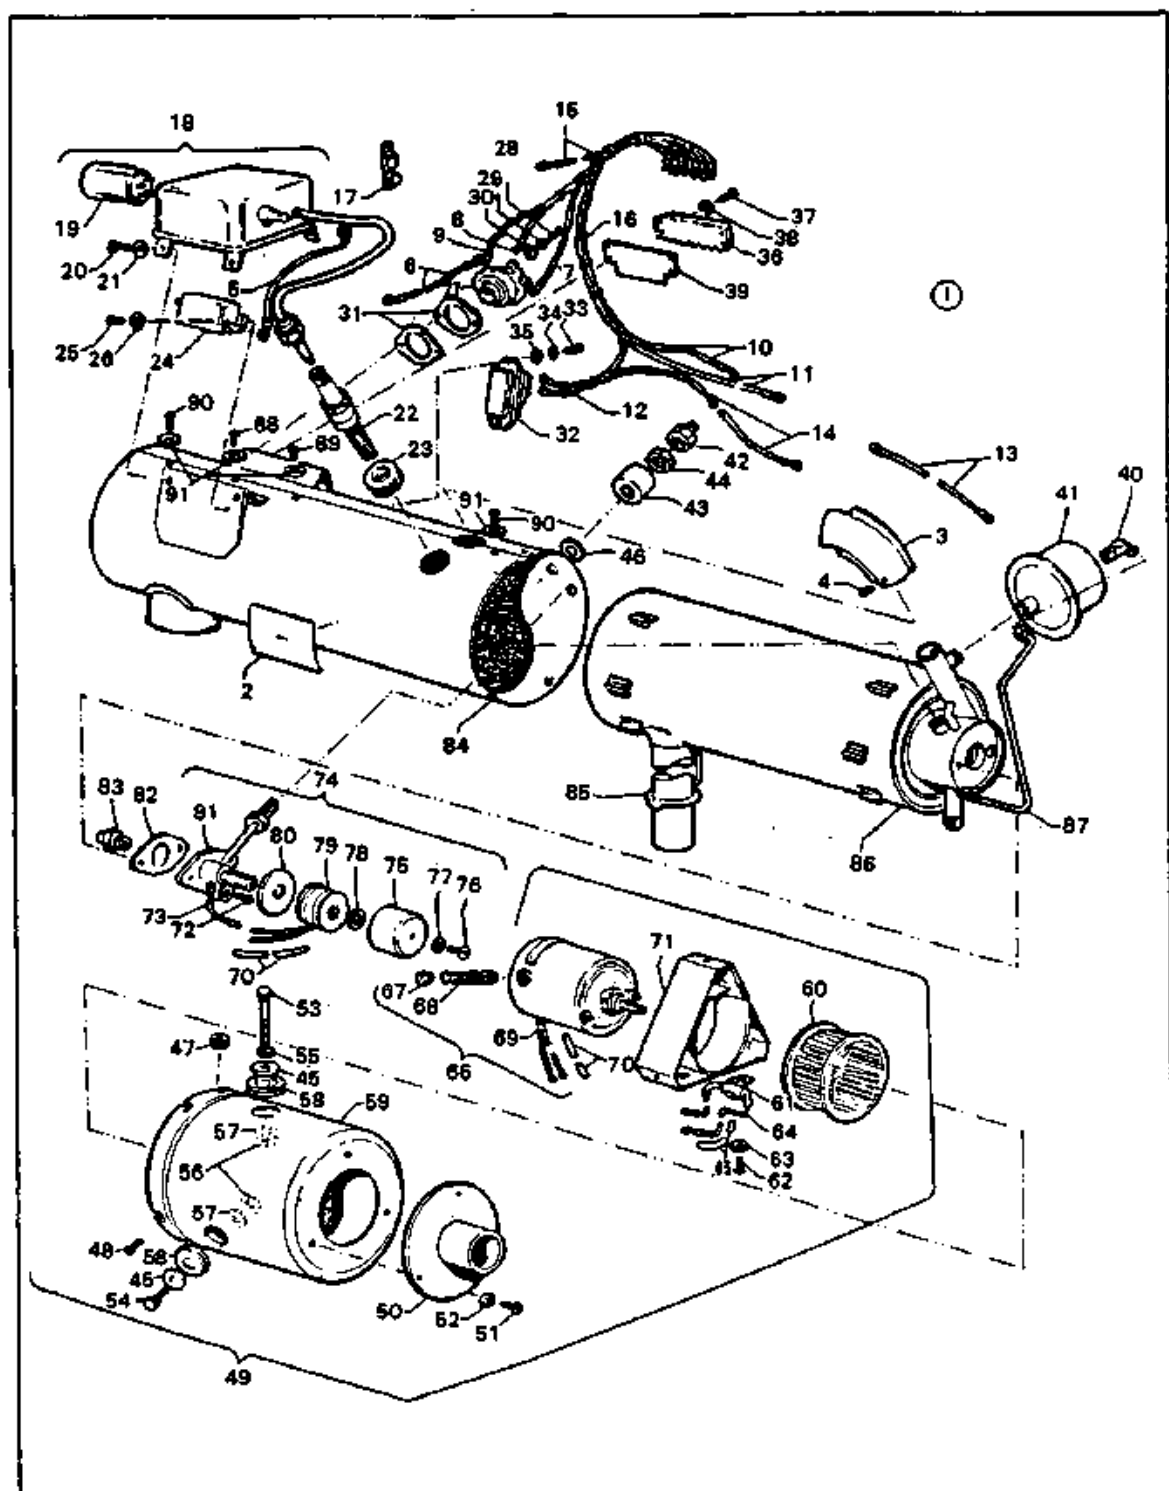

Figure 13-25. Exploded View of Heater Assembly No. 751 959
#### 13-110. CLEANING. (Refer to Figure 13-25.)
## 13-111. CLEANING AND INSPECTING THE COMBUSTION TUBE ASSEMBLY. (Refer to Figure 13-25.)
#### 13-112. INSPECTION OF REMAINING COMPONENTS. (Refer to Figure 13-25.)
f. Inspect the ignition assembly (18, Figure 13-25) for dented case, loose or damaged primary terminal insulator and broken or obviously damaged high-voltage lead. Give particular attention to the condition of the spring connector at the end of the lead. If the spring is burned off, visibly eroded, or carbon tracked, the ignition assembly should be replaced.
- e. Spray test the nozzle (see (83), Figure 13-25) as follows:
13-115. REASSEMBLY. (Refer to Figure 13-25.)
Legend for Figure 13-25.